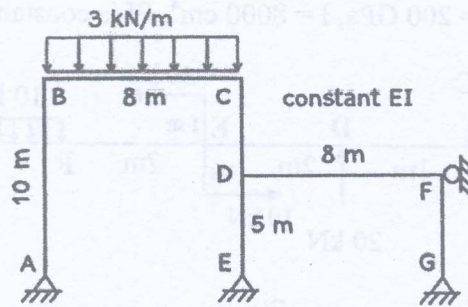

Fig. 5
- 2' Analyze the frame using the moment distribution method and determine the support reactions/moments. The frame shown in shown below. (Fig. 5) (15) CO2